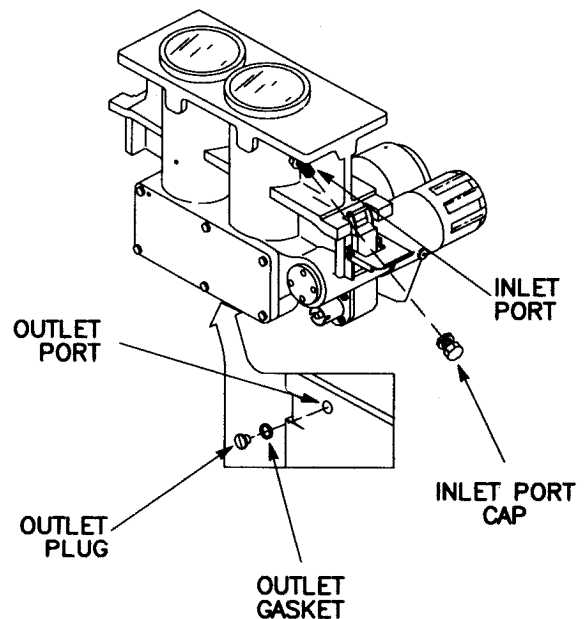

Figure 3-34 M48 Periscope Body Assembly
- (1) Perform purging and charging procedure para 2-5.b.
- (2) Purge instrument at 5 psig for 5 minutes.
- (3) Charge instrument at 1 psig for 10 seconds.
- (4) Leak test for minimum of 5 minutes.
p. Periscope M48 Tank (fig. 3-34).